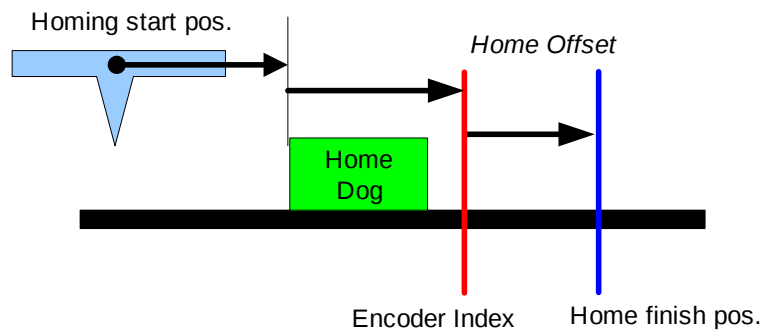

Fig. 3-6
- Home Offset : The offset of the platform after encoder index is found in homing procedure. The final position will be set to the home finish position. This parameter is effective in the homing mode 1Dir, Auto and Index.(Fig. 3-6)